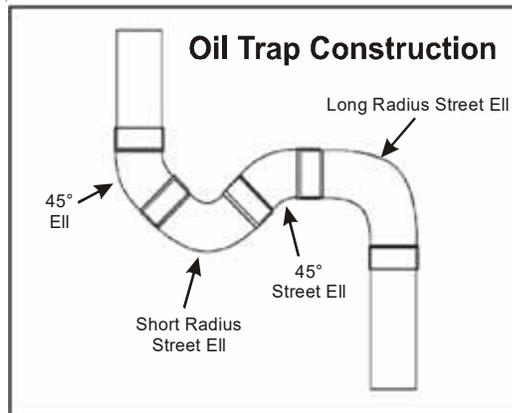

Figure 3-1. Oil Trap
**An oil trap at the indoor unit is required if the elevation difference exceeds 80'. The trap can be constructed of standard refrigerant fitting (See Figure 3-1.)